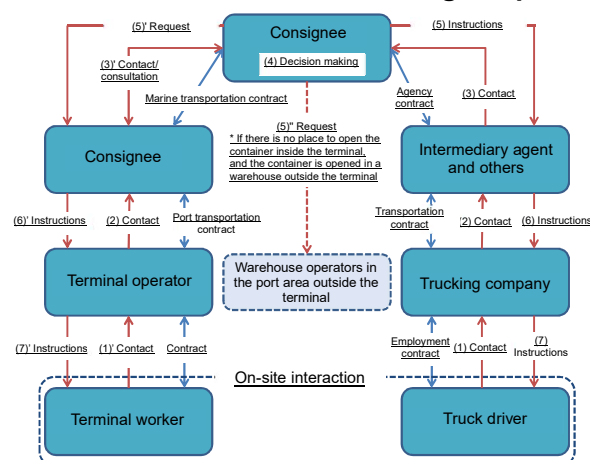

Figure 16 Communication and coordination path between the parties involved
- If the driver notices an overweight when carrying out an import container, contact the consignee, and if a weight scale is available, measure the weight, and if not, ask the consignee for judgment and take appropriate action based on the judgment, as shown in Figure 16.